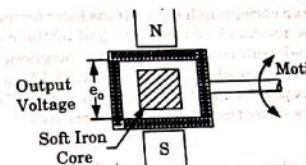

Fig. 5.13.1. Electrodynamic transducer for rotary motion.
- Fig. 5.13.1 shows an electrodynamic transducer for measuring rotary motion. The coil moves in the annular space between a magnet and a soft iron core, generating a voltage in the coil.